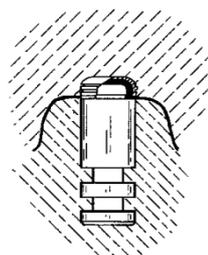

Fig. D3
6. Before waxing and processing the appliance, place a LOCATOR® Denture Cap Processing Male Assembly onto each Female Analog in the master cast (Fig. D3). Make sure the Denture Cap Processing Male Assembly is fully seated.